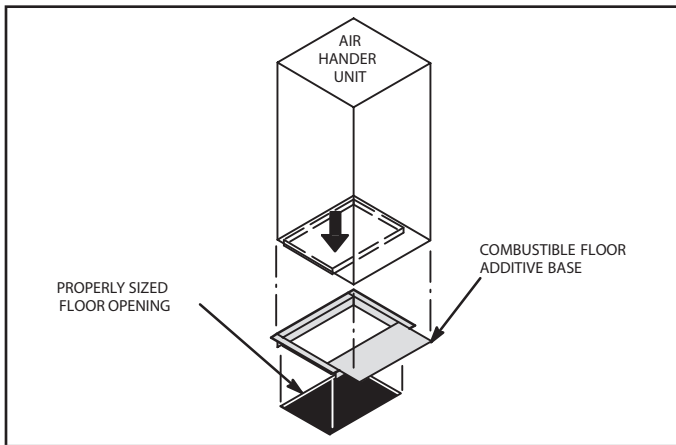

FIGURE 9. Downflow Combustible Flooring Base
- 8 - For downflow installation on combustible flooring, an additive base must be used as illustrated in figure 9. See CBK47UHET Engineering Handbook for downflow combustible flooring base kits available for this air handler.